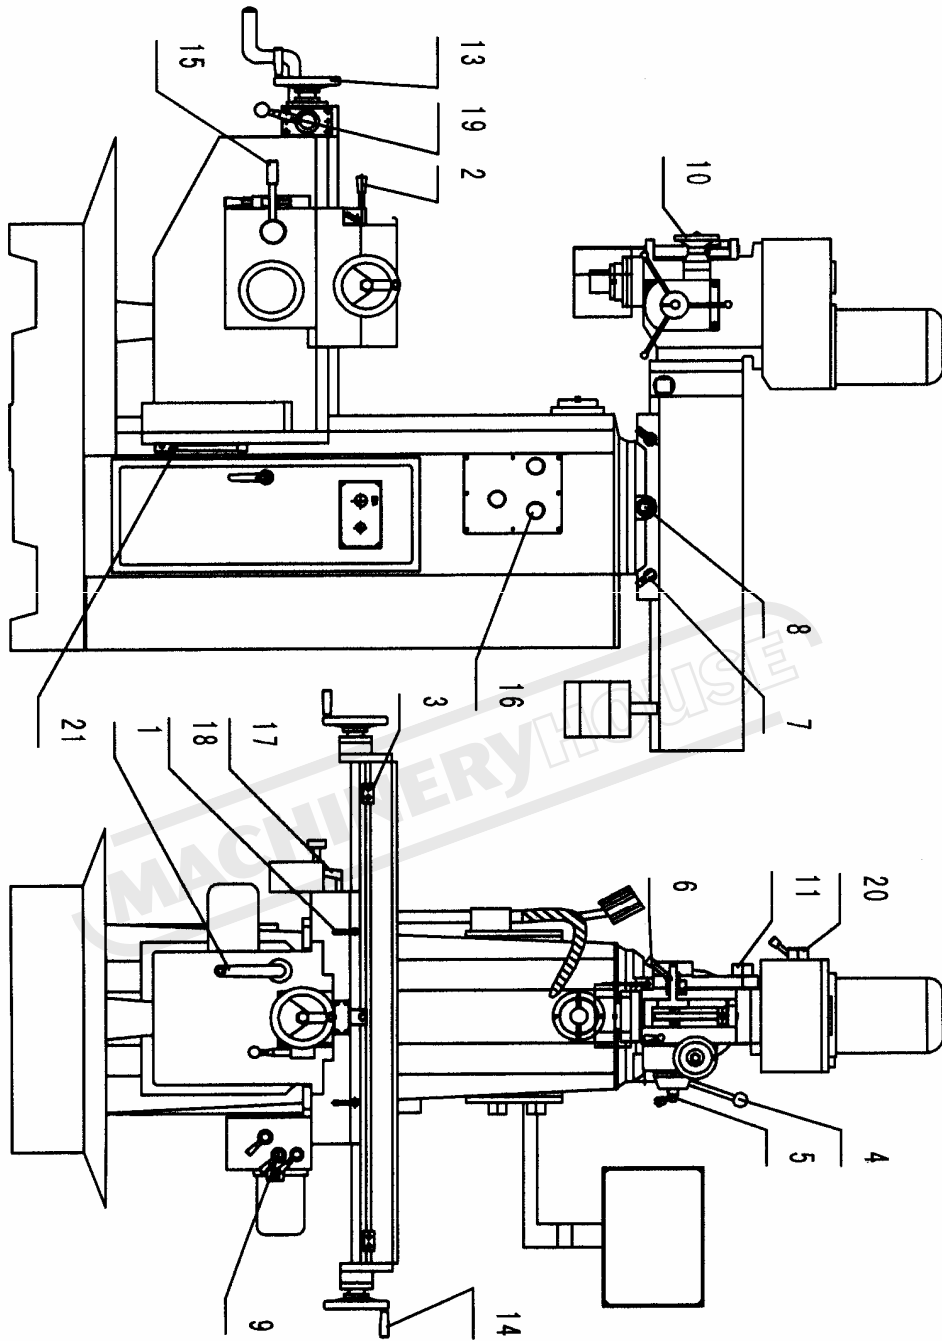

Fig. 2
4.1 Read the manual carefully before operating the machine, make familiar with structure of the machine, functions of each handle, and buttons, coolant & lubrication, transmission system and electrical system. (fig.2)
5.1 Main transmission system (Fig. 2)